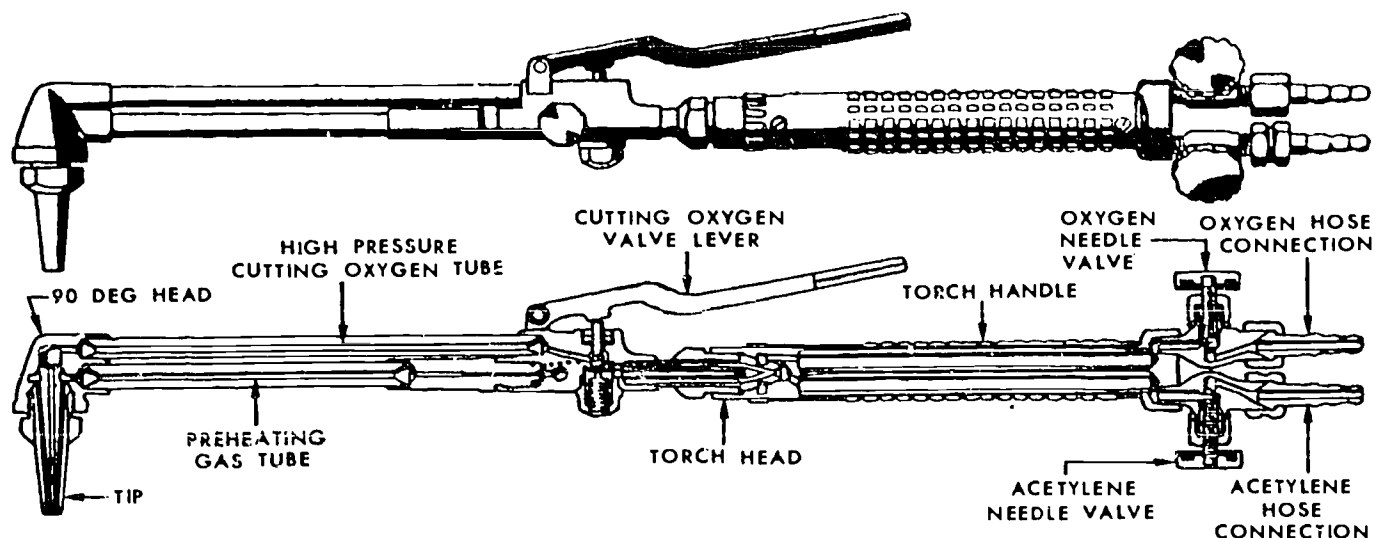

Figure 5-2. Cutting attachment.
**Cutting attachment.** The construction and operation of the cutting attachment, figure 5-2, are like those of an ordinary cutting torch. The simple attachment fits the body of the standard welding torch, converting it quickly into a cutting torch. Since it is unnecessary to disconnect the hoses, the changeover can be made in a very short time. This attachment is very useful for the occasional cutting of lighter section. The cutting attachment is not recommended for the constant cutting of heavy materials. Such work should be done with a regular heavy duty cutting torch.